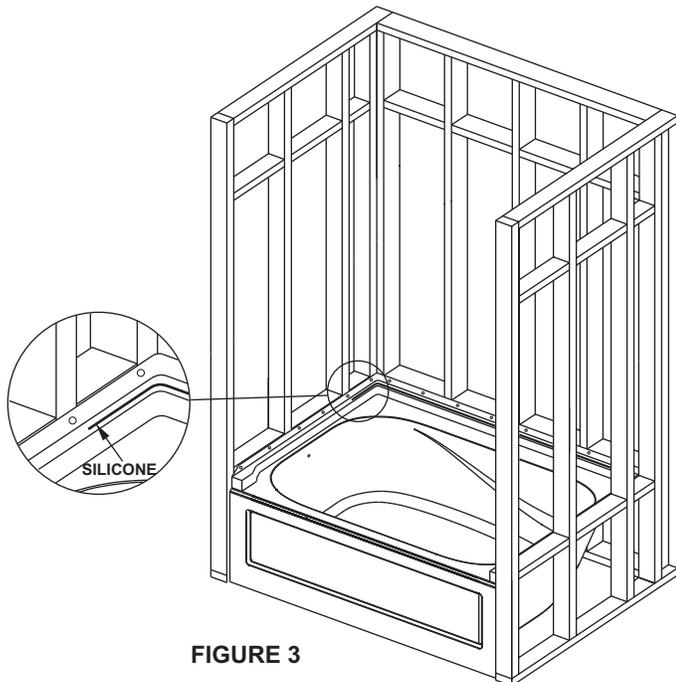

FIGURE 3
- The shower is fastened in place using dry wall screws. Holes are to be drilled in the flange on both sides and across the top. The holes are to be drilled by the installer as illustrated in figures 3 - 6 on the following pages.
- Carefully position the tub section in the alcove and push flush against the framework walls as shown in figure 3.
- Apply a thick bead of silicone all around the back flange tub periphery and 6" around each corner in the groove provided as shown in figure 3 detail.